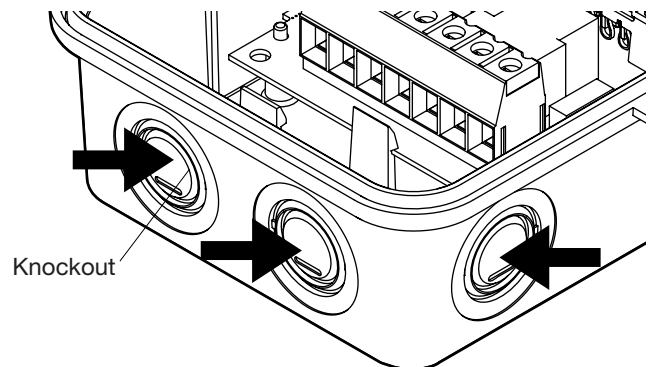

FIG. 6 Knockouts
6. Select and open the appropriate number of knockouts for your installation, as shown in FIG. 6. To remove the inner 1/2" circle of a knockout, insert a screwdriver in the slot and carefully punch loose the knockout. If more space is needed for the wiring, remove the 3/4" outer ring of the knockout with pliers after removing the inner circle. Smooth the knockout edges if necessary. See FIG. 6.